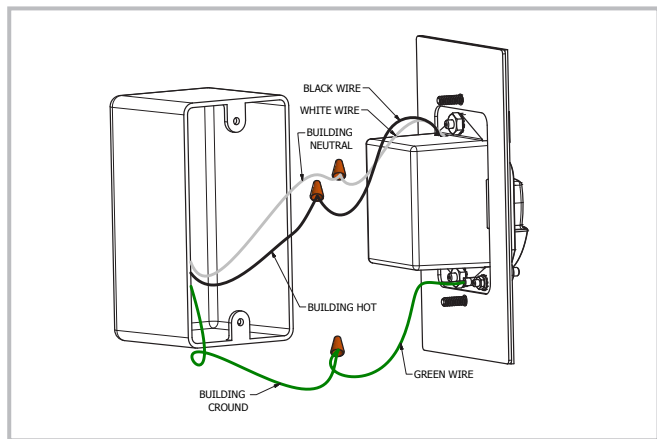

Figure 4: Wiring Diagram
1. Connect the Black wire from the Back Plate to the building "Hot" wire. Connect the White wire to the building "Neutral" wire. Connect the Green wire to the building "Ground" wire. See **Figure 4**.